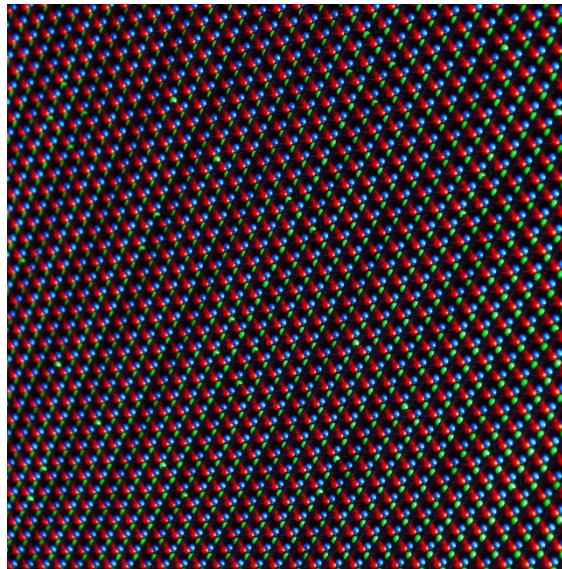

Figure 36
- A simple transistor can be used for ON/OFF of an LED as shown in Fig. 36.